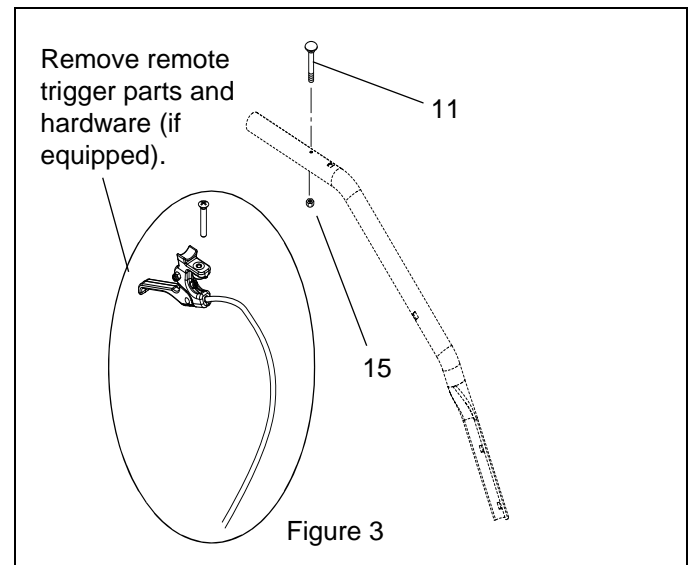

Figure 3
4. If the unit is equipped with a remote locking differential or remote wheel lock, disconnect cable from unit. Remove remote trigger from left handlebar. Install 1/4" round head square neck bolt (item 11) and hex nut (item 15) in trigger mount location. See Figure 3.